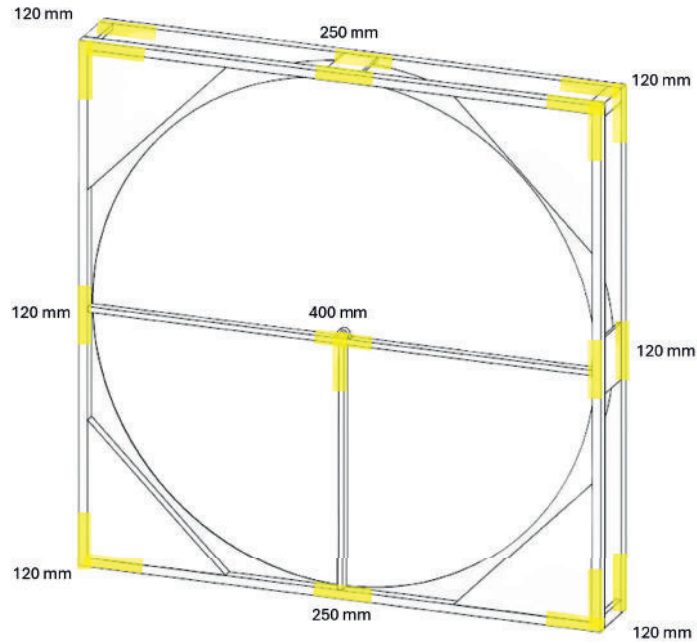

Figure 40: Model EQ fastening points.
- All areas marked yellow in figure 40, must be secured to the surrounding structure. The position of the attachments can be anywhere within the marked areas.